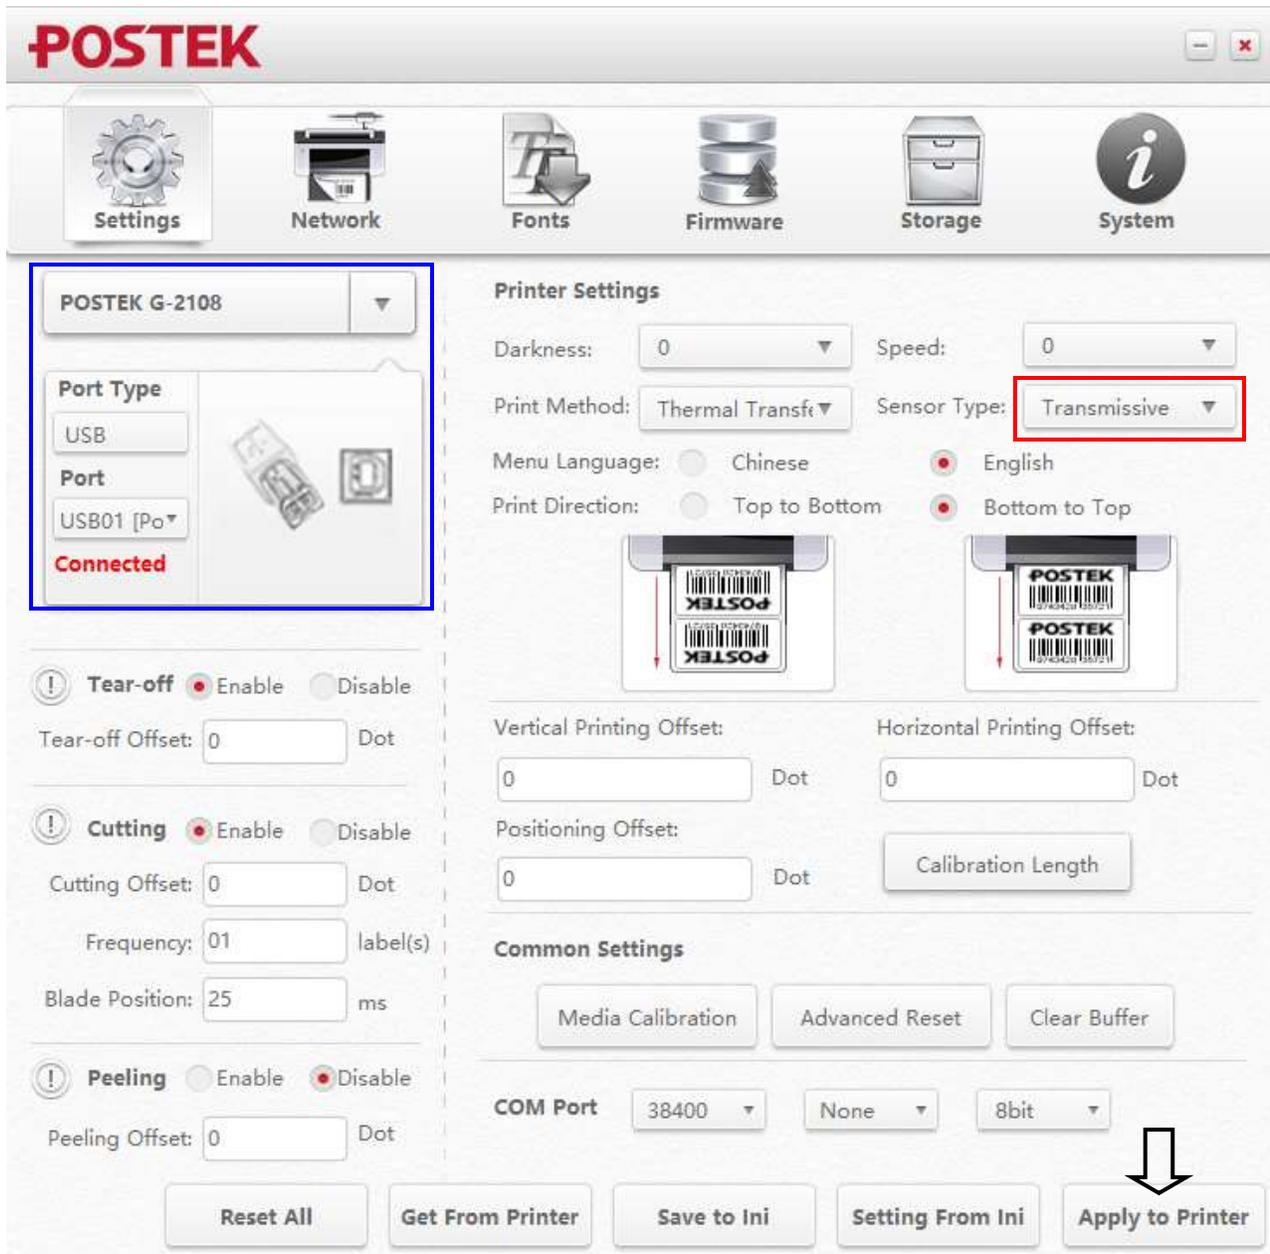

Figure 8-1
3. Click to open Utility 3.0, the interface of the tool will be shown as figure 8-1; then check if the connection is correct.
4. If the connection is correct (see the area of blue rectangle), please find the “Sensor Type” under then printer settings area, and then select “Transmissive” from the drop-list (Figure 8-1).